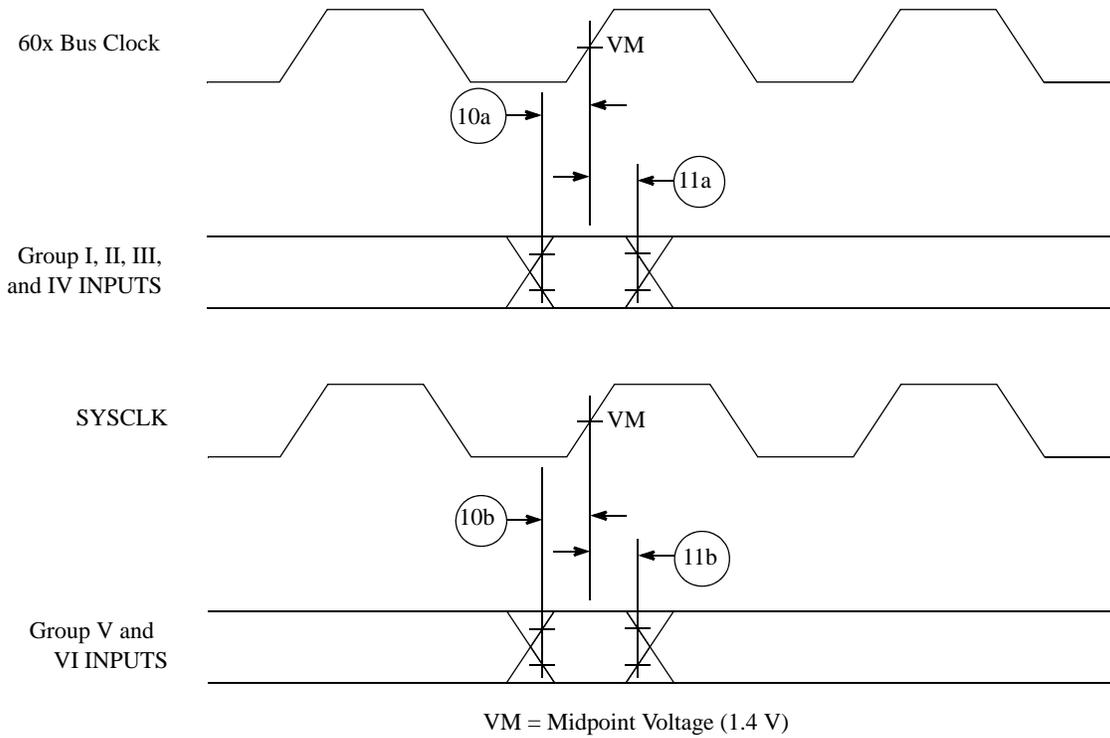
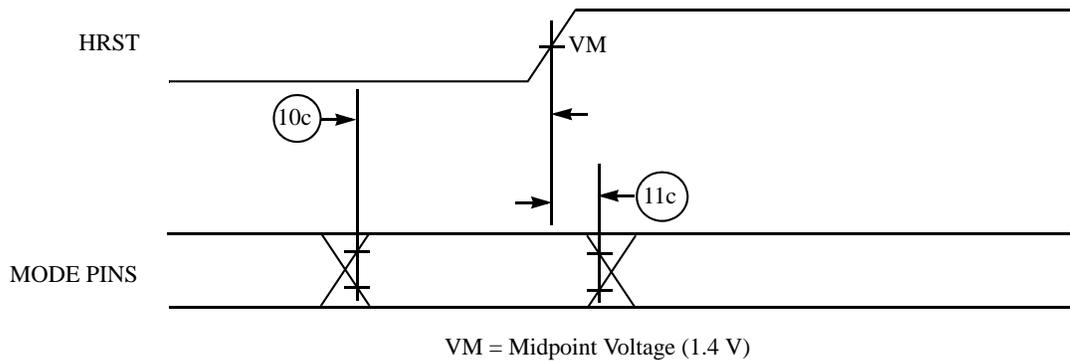

Figure 3. Input Timing Diagram
Figure 4. Mode Select Input Timing Diagram
Table 7 provides the input AC timing specifications for the Tsi106 as defined in Figure 3 and Figure 4. These specifications are for operation between 16.67 and 33.33 MHz PCI bus clock (SYSCLK) frequencies. Assume Vdd = AVdd = 3.3 ± 5% V DC, GND = 0 V DC, and 0 ≤ T_j ≤ 105°C.
- ¹ Input specifications are measured from the TTL level (0.8 or 2.0 V) of the signal in question to the 1.4 V of the rising edge of SYSCLK. Both input and output timings are measured at the pin (see Figure 3).
- ¹⁰ The setup and hold time is with respect to the rising edge of $\overline{\text{HRST}}$ (see Figure 4). Mode select inputs include the $\overline{\text{RCS0}}$, $\overline{\text{FOE}}$, and $\overline{\text{DBG0}}$ configuration inputs.
Figure 3 provides the input timing diagram for the Tsi106.
Figure 4 provides the mode select input timing diagram for the Tsi106.